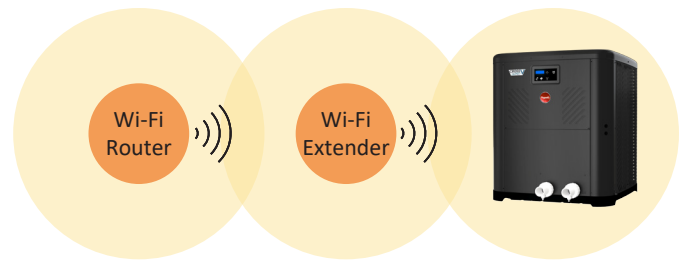

Figure 123. Wi-Fi Extender
- Add a Wi-Fi range extender to cover heater zone or enable a new Wi-Fi access point. See **Figure 123**.